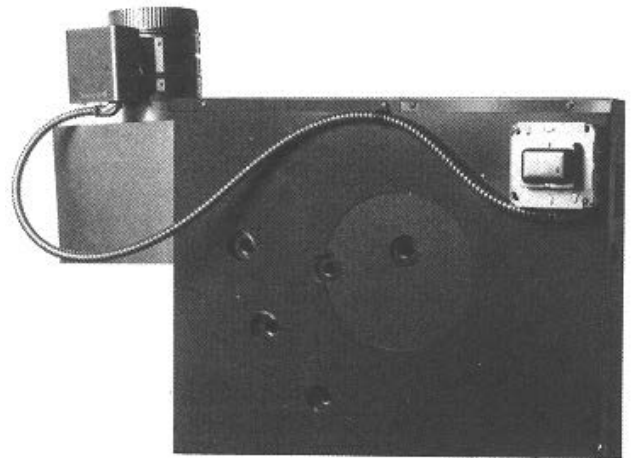

Figure 29: Vent Damper Harness to Junction Box
- d. Install cable clamp around flexible Vent Damper Harness. Attach to jacket top panel. See Figure 29.
2. Note: After vent damper is installed and operated through one (1) cycle, the control circuit will operate only when vent damper is in control circuit.